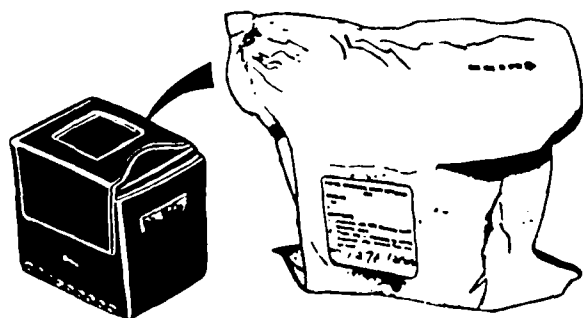

Figure 19-1.—M9 chemical agent detector paper.
**M9 CHEMICAL AGENT DETECTOR PAPER.**—The M9 chemical agent detector paper (fig. 19-1) detects the presence of liquid chemical agents encountered by the individual. It will NOT detect chemical agent vapors. The paper will indicate the presence of a nerve agent (G and V) or a blister agent (H and L) by turning a red or reddish color.